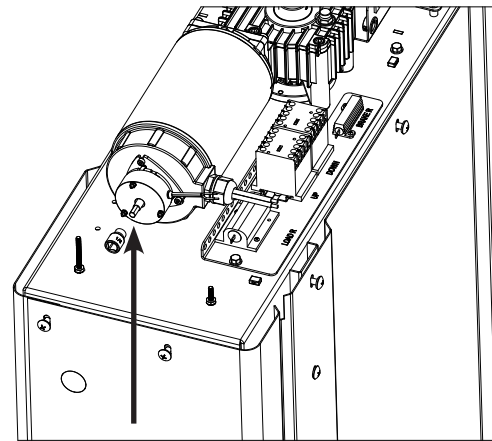

Figure 4-15
5. If you have a $\frac{3}{8}$ " drive ratchet or a cordless drill with a $\frac{3}{8}$ " socket adapter bit you can use the $\frac{1}{4}$ " socket for lowering. Power the drill in the forward direction - rotating clockwise to lower the platform. **See Figure 4-15.**